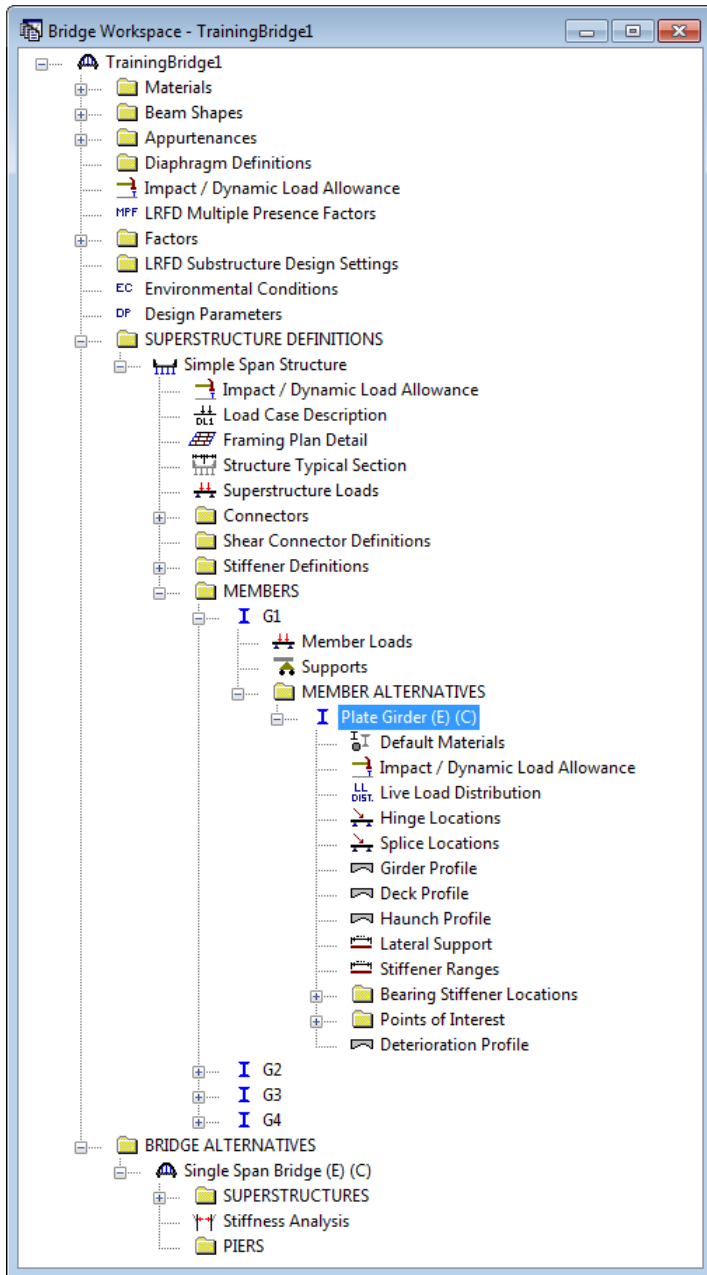

Fig 2. G1 - Bridge Workspace Tree - Girder Member Alternative
Once Bridge Workspace tree shows up, expand “Simple Span Structure” under “SUPERSTRUCTURE DEFINITIONS” in the tree by clicking on “+”. Then expand “MEMBERS” and select “G1”. Expand “G1” and select “Plate Girder (E)(C)” under “MEMBER ALTERNATIVES”. Expand “Plate Girder (E) (C)” by clicking on “+”. Now Bridge Workspace tree will be as shown in Fig 2.